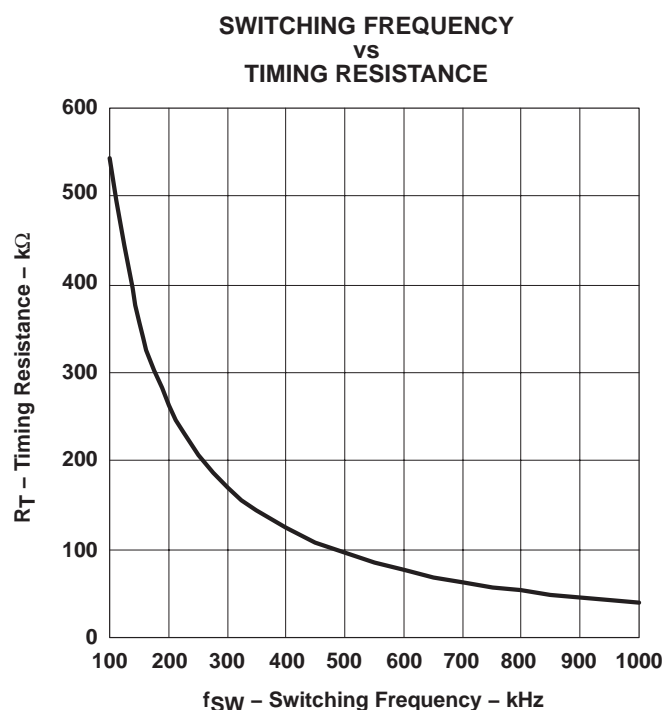

Figure 2
The TPS4005x has independent clock oscillator and ramp generator circuits. The clock oscillator serves as the master clock to the ramp generator circuit. The switching frequency, f_{SW} in kHz, of the clock oscillator is set by a single resistor (R_T) to ground. The clock frequency is related to R_T , in k Ω by equation (1) and the relationship is charted in Figure 2.